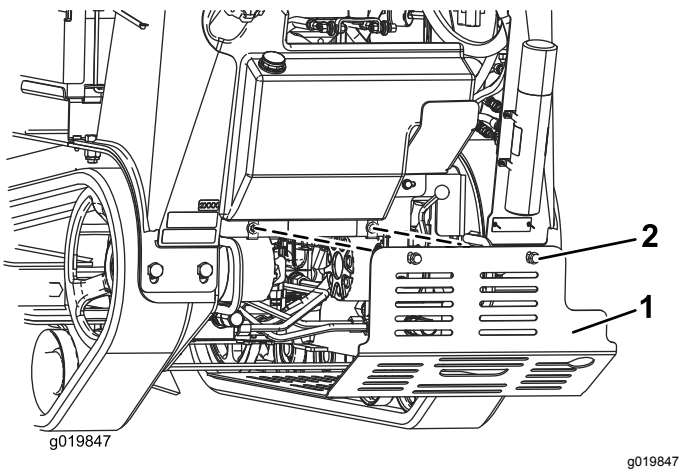

Figure 26
3. Loosen the 2 bolts securing the bottom shield sequentially until the shield is free (Figure 26).
5. To install the shield before operating the machine, slide the bottom shield into the machine so that it rests on all 4 tabs and secure it with the 2 bolts you loosened previously (Figure 26).